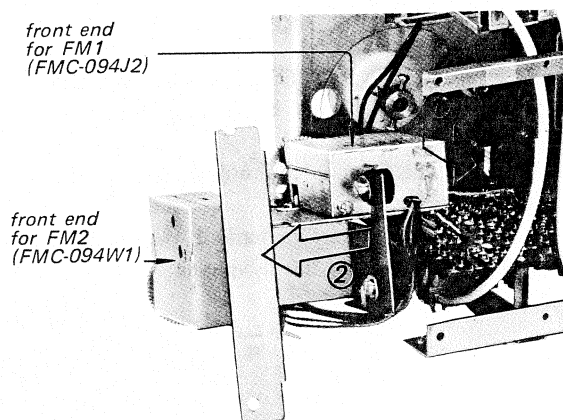

Fig. 2-7
5. Remove the two fm front-end blocks in the direction shown by the arrows in Fig. 2-7.